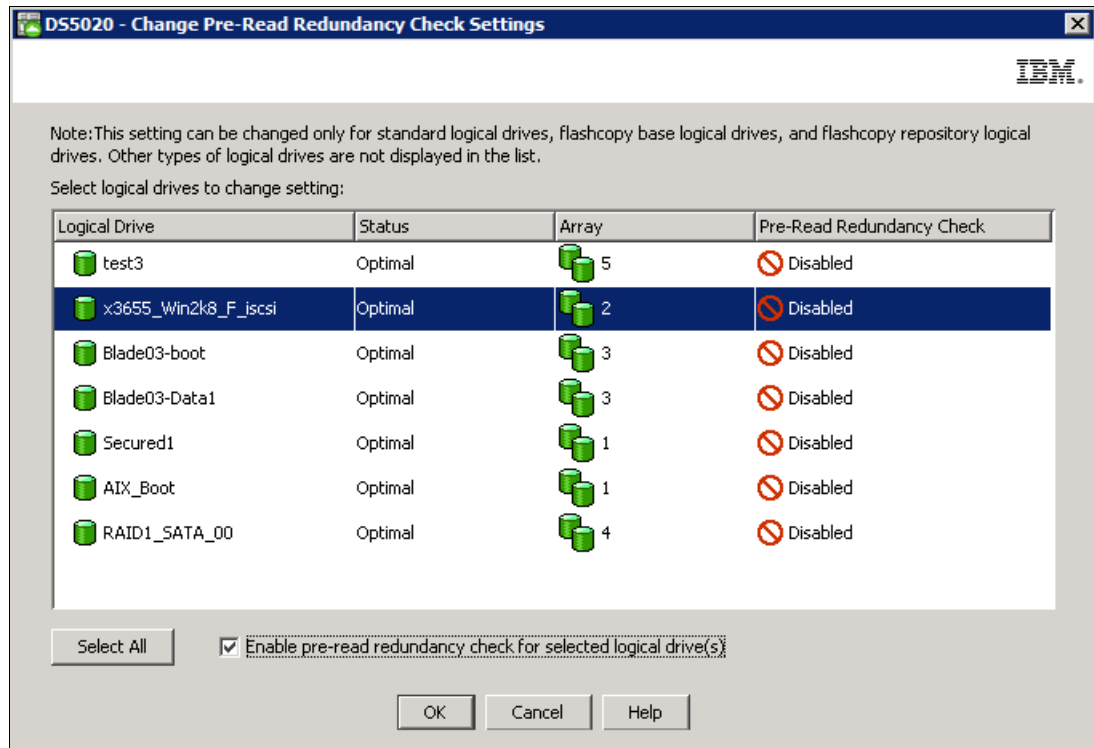

Figure 3-103 Enabling pre-read redundancy check
3. Make sure that the correct logical volume is selected, and click the lower box to enable the value, as shown in Figure 3-103.